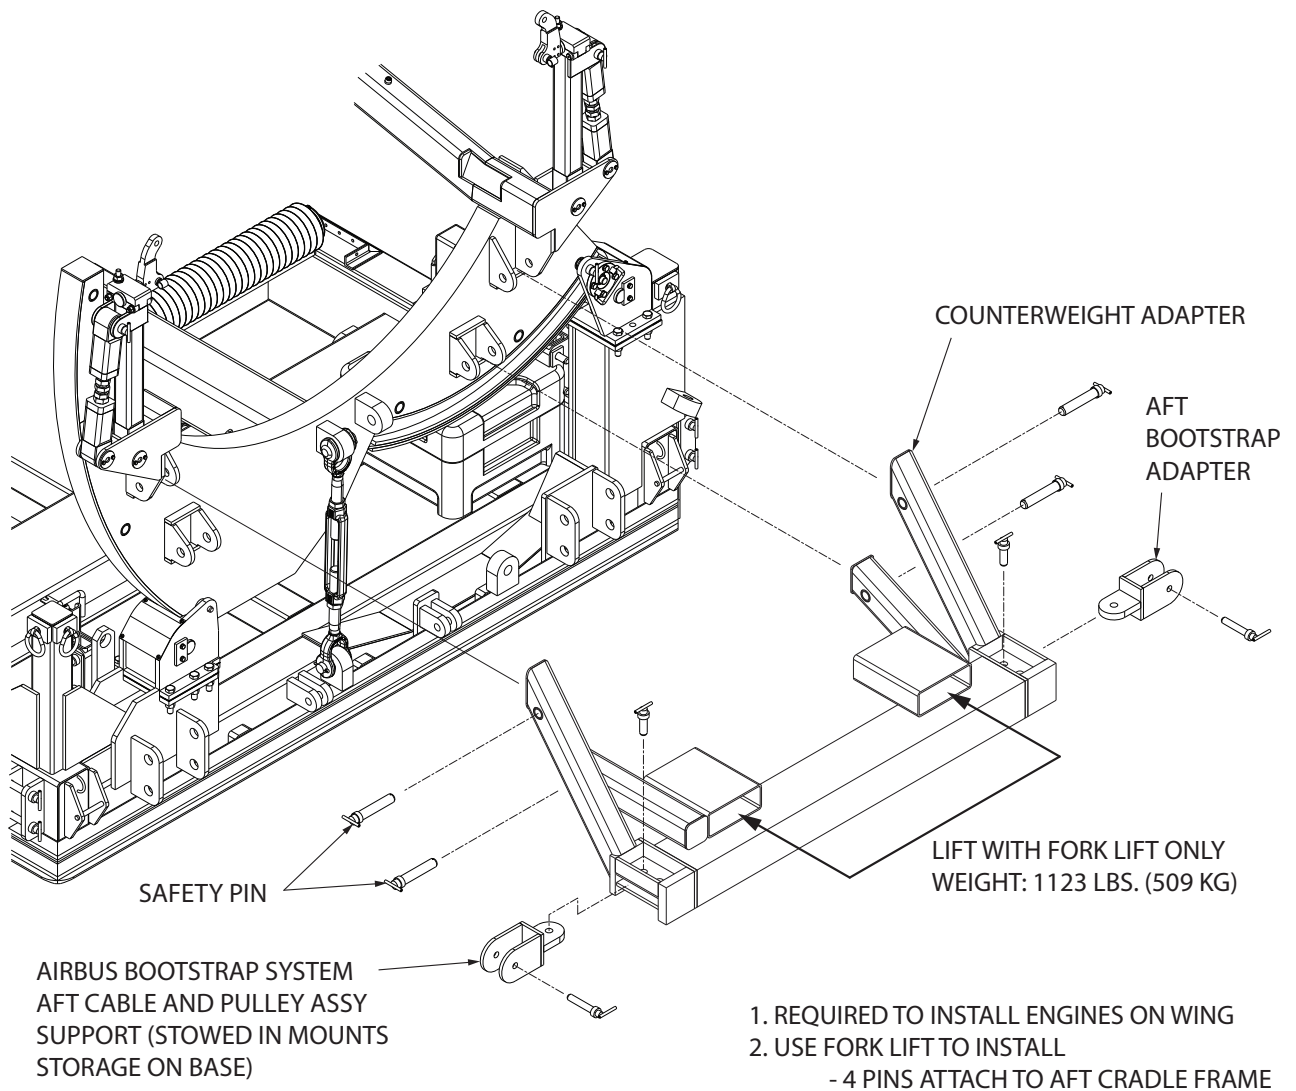

Figure 5.6.4-1 AFT Bootstrap Counterweight and Support Assembly
5.6.4 Aft Bootstrap Counterweight and Support Assembly (Figure 5.6.4-1)
- 1) Use forklift to align AFT bootstrap counterweight and support assembly with the AFT cradle frame (Figure 5.6.4-1).
- 2) Secure the component with four (4) safety pins.
- 3) Remove the AFT bootstrap adapters by removing the safety pins (2) then stow in the mounts storage on the base.